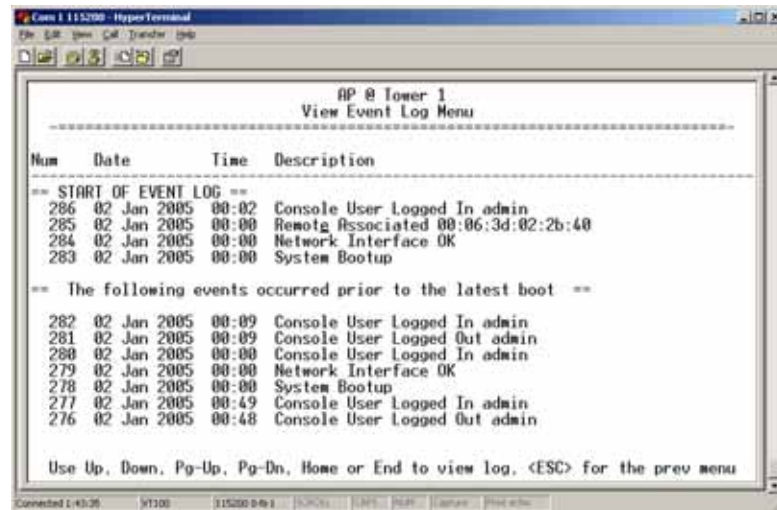

Figure 3-85. View Event Log Menu
- **View Event Log**—Displays a log of radio events arranged by event number, date, and time. (Example shown in Figure 3-85 on Page 113).